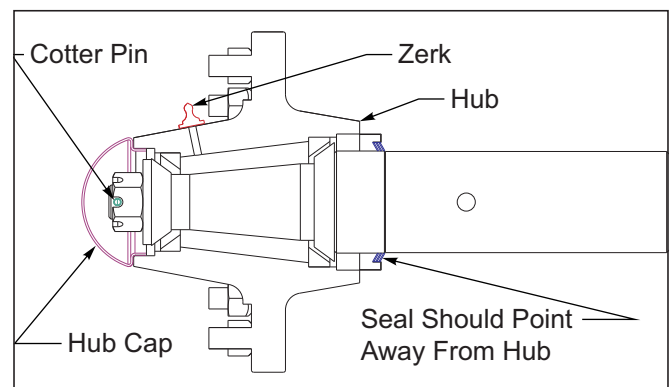

Figure 5-2: Triple Lip-Seal
- The triple-lip seals should point away from the hub to keep contaminants out and allow grease to pass See Figure 5-2.*
11. Install a new cotter pin and replace the hub cap. *See Figure 5-2.*